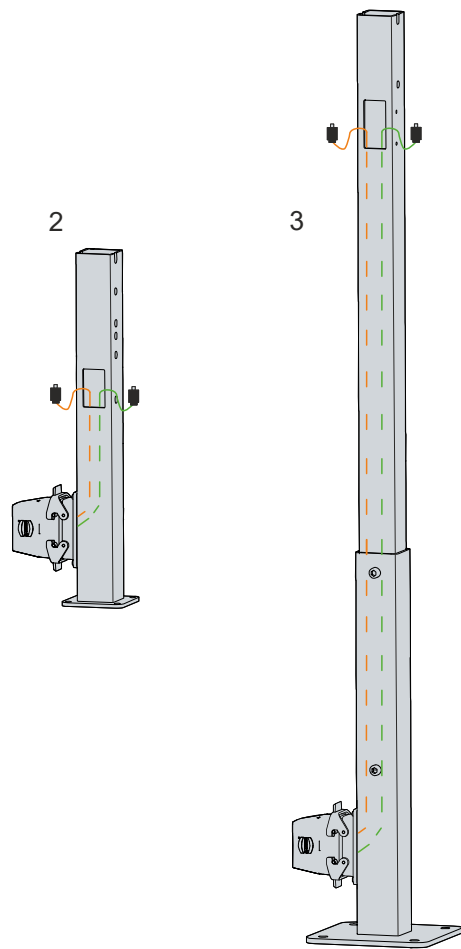

Fig. 21: CP32xx\_wiring
If you mount the panel PC on the C9900-M803 (2) or C9900-M804 (3) mounting arm, the wiring of the power supply and Ethernet passes through the mounting arms. At the foot of the mounting arms is the HAN connection socket with the HAN plug. From there, the power cables and Ethernet cables are fed through the mounting arms upwards to the opening (see Figure 21). Plug the plugs protruding out of the mounting arm into the PC.